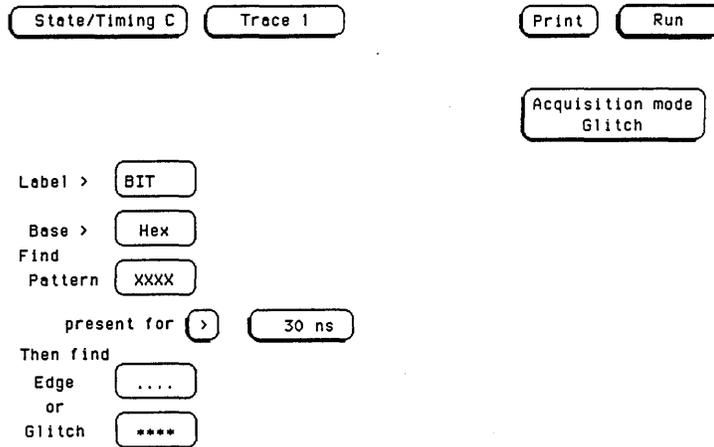

Figure 3-49. Trace Screen
4. Configure the Trace screen for **Glitch Acquisition mode** as in figure 3-49. Refer to steps a through c if unfamiliar with menus.